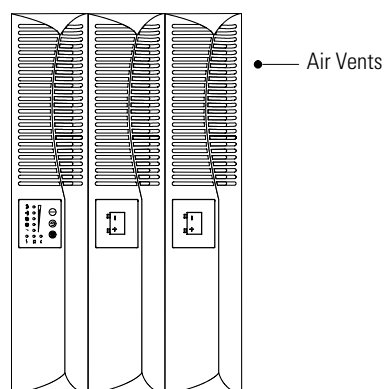

Figure 9. Tower UPS with EBM's
6. Carefully position the cabinets upright with the air vents at the top (see Figure 9).